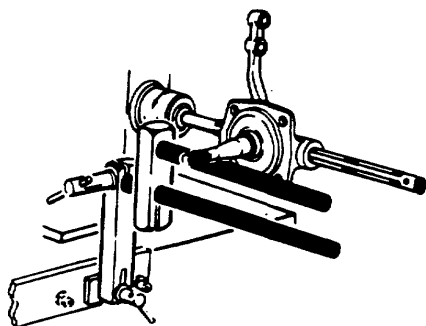

FIGURE 49
- (1) Honing units for fitting king pins are extra long in order to get perfect alignment between bushings and to allow proper overstroking.
- (2) Adjust the Work Support to absorb the honing torque (Figure 49). Use medium cutting pressure (2 or 3). See Page 14 for spindle speed selection. As with other new bushings, depress Pedal slowly until initial roughness is removed.